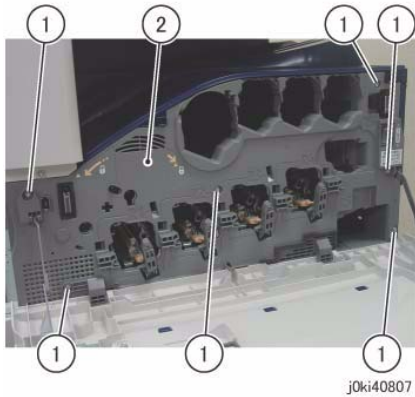

Figure 2 Remove the L/H Cover
- Remove the Front Cover together with the Inner Cover. (Figure 2)